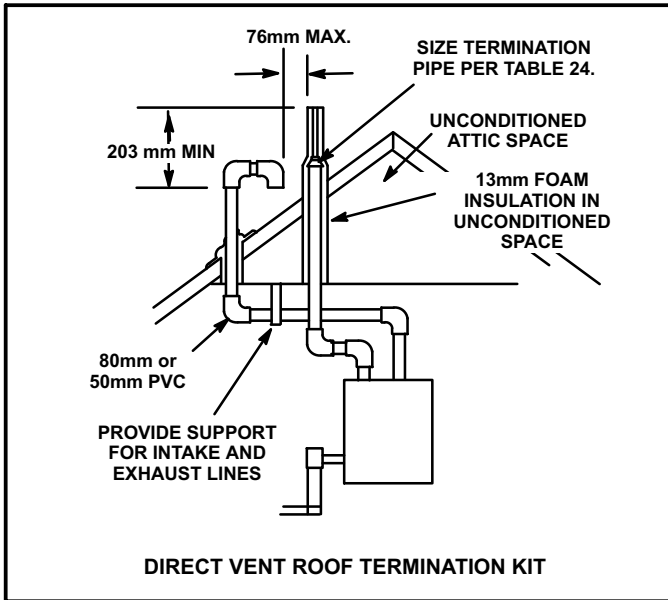

FIGURE 24
Intake and exhaust pipes may be routed either horizontally through an outside wall or vertically through the roof. In attic or closet installations, vertical termination through the roof is preferred. Figures 24 through 27 show typical terminations.
4. On roof terminations, the intake piping should terminate straight down using two 90° elbows (See figure 24).